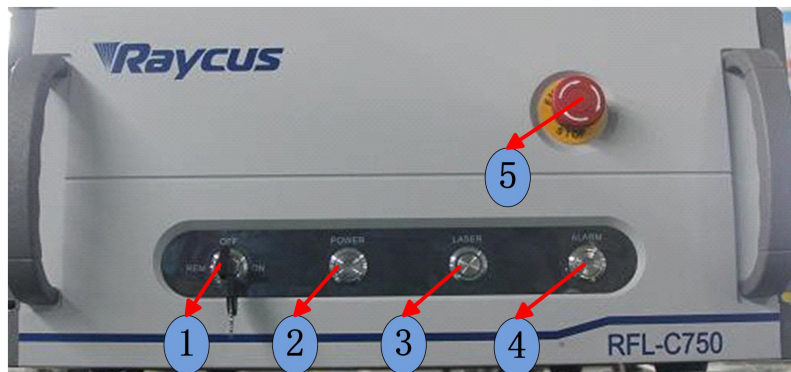

Figure 8 Front Panel View of RFL-C100~RFL-C1000
Figure 8 shows the front panel of RFL-C100~RFL-C1000 (take RFL-C750 for example, other models in the series have the same front panel)
1. **REM/OFF/ON:** Key switch, the power switch of the laser. Insert the key (**Item 6** in Figure 8(9)); either turn the key clockwise to the 'ON' position or counterclockwise to 'REM' position will power on the laser. Then the laser will enter a control mode depending on your previous setup on the 'CTRL-INTERFACE'. You can refer to **4.6 Control Mode** for more details.